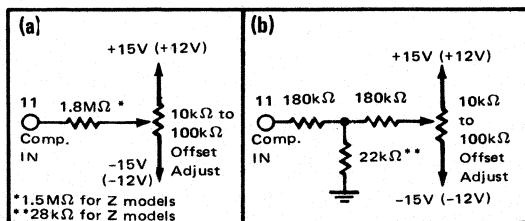

FIGURE 9. Two methods of connecting optional offset adjust with a 0.4% of FSR range of adjustment.
Gain and Offset errors may be trimmed to zero using external gain and offset trim potentiometers connected to the ADC80 as shown in Figures 9 and 10. Multiturn potentiometers with 100ppm/°C or better TCR's are recommended for minimum drift over temperature and time. These pots may be any value from 10 k $\Omega$  to 100 k $\Omega$ . All resistors should be 20% carbon or better. Pin 16 (Gain Adjust) may be left open if no external adjustment is required.
**OFFSET** - Connect the OFFSET potentiometer as shown in Figure 9. Sweep the input through the end point transition voltage that should cause an output transition to all ones.